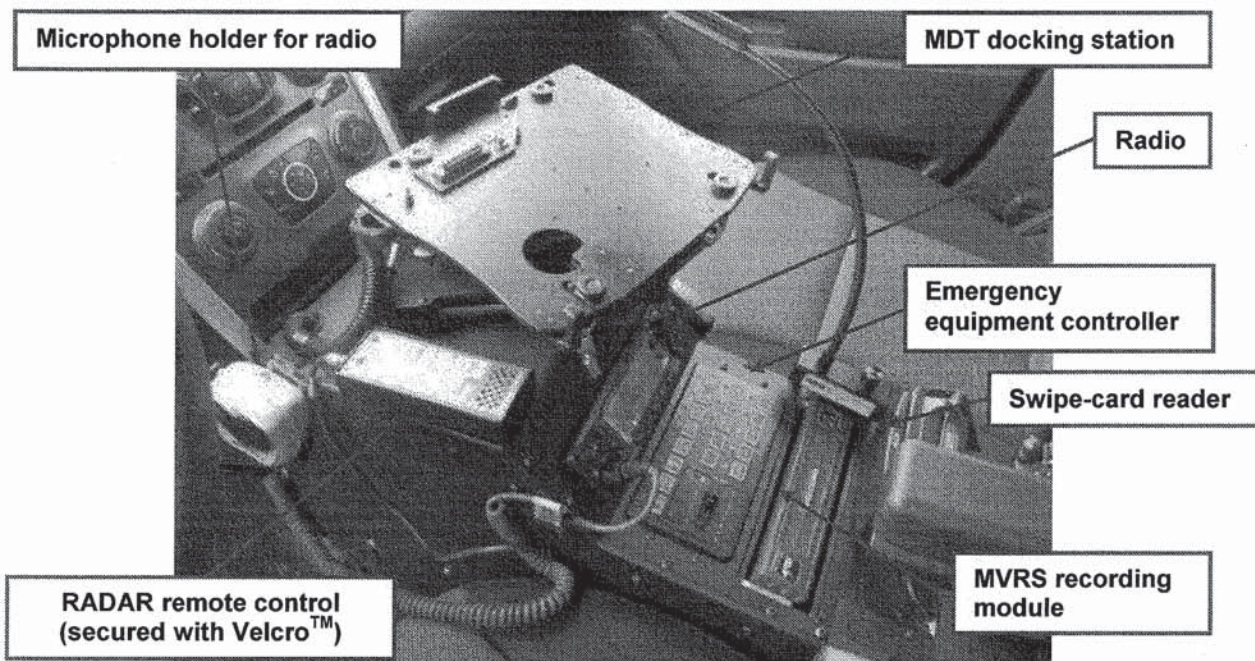

Figure 18 – Ergonomic mid-console configuration example
- d. an electronic swipe-card reader installed on the center console (see Figures 18 and 19).
31. *Figures 18 and 19* contain illustrated examples of ergonomic mid-console equipment configurations for use in Ford Police Interceptor Utility marked MP vehicle. Although models and designs of commercially available ergonomic mid-consoles vary widely, the placement of police radio, emergency equipment controllers, and other features ***shall*** not vary from these diagrams.